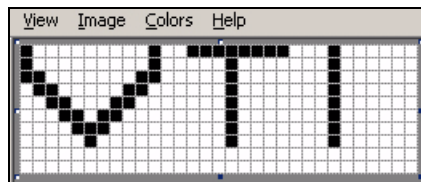

Figure 5-57: Logo Created on Microsoft Paint
- 5 Create the required logo on the page (see Figure 5-57).